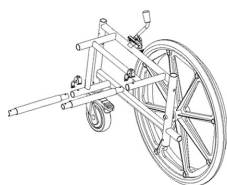

Fig.1
- Insert the fixing tubes on the left or right side frame, align the holes and insert the C-clips as shown in Fig.1;